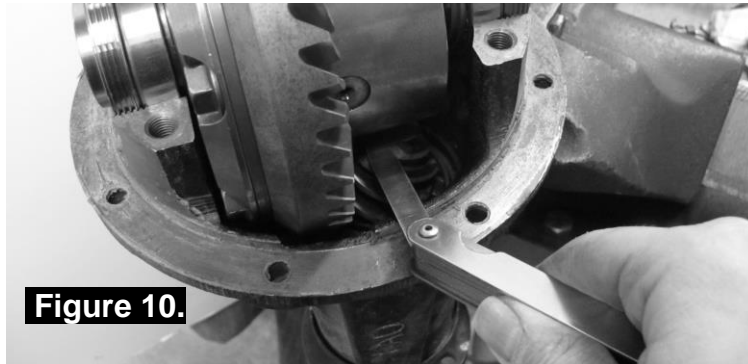

Figure 10.
- Insert a feeler gauge between the case body and the pinion gear when the Air Locker is fully seated onto the housing (Figure 10.).